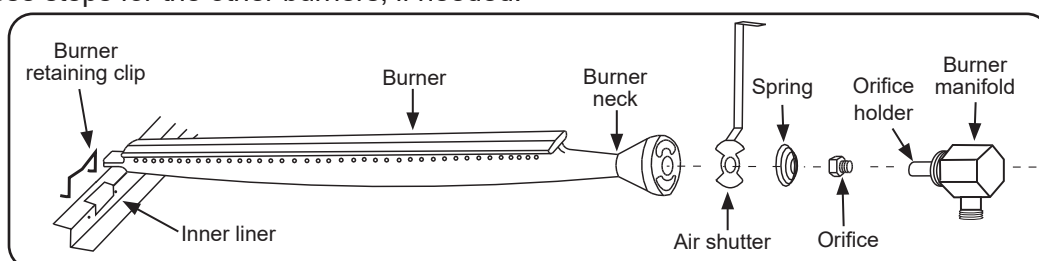

Fig. 36-4 Burner components diagram
3. Locate and remove the burner retaining clip from behind the burner using a flat head screwdriver (see Fig. 36-4).
- a. Install the air shutter spring, then the air shutter over the orifice holder fitting in the order and position as shown in Fig. 36-4.